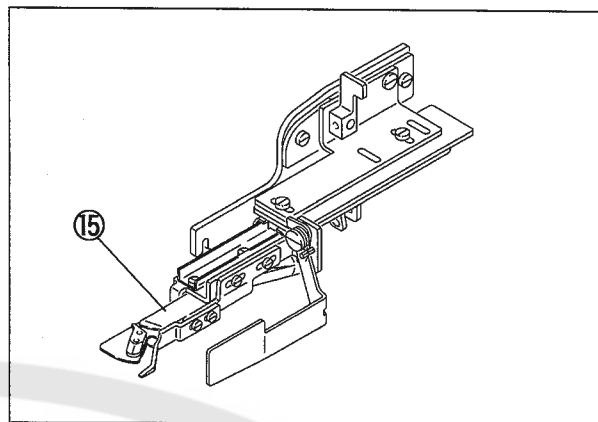

Fig. 4
- (6) Make sure the suction pipe C. set ⑮ moves to the extreme left position (set position) and stops when the knee press ⑭ is pushed. (Fig. 4)